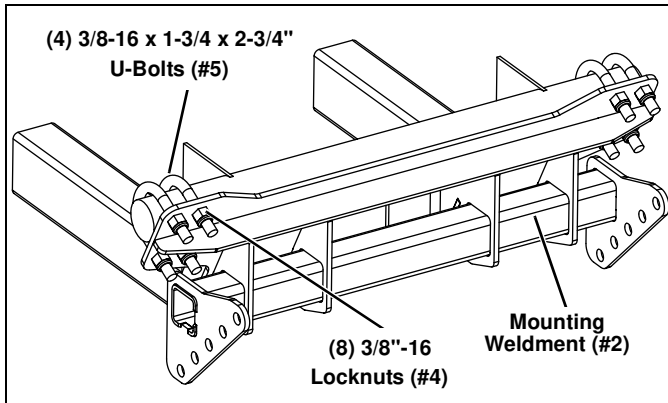

Figure 5
- Attach the top of the Mounting Weldment (#2) to the tubular frame section with (4) 3/8"-16 x 1-3/4" x 2-3/4" U-Bolts (#5) and (8) 3/8"-16 Locknuts (#4). (See Figure 5.)